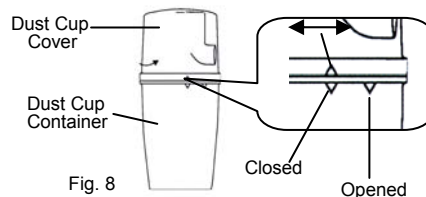

Fig. 8
3. To empty the dust cup (container), turn the dust cup cover clockwise. (Fig. 8)